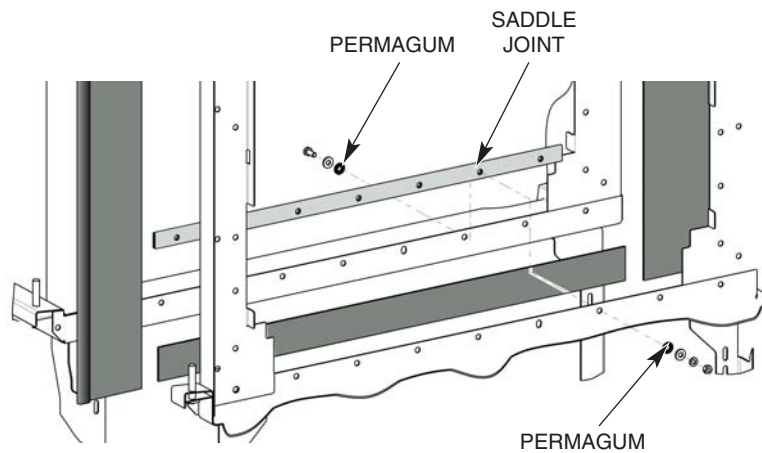

Fig. 10
4. Use Permagem on insides of washers on both sides to make an adequate seal (Fig. 10). You may have to use a C-clamp on the saddle to get the hardware started. Bolt the saddle joint to the bottom tank flanges with seven long bolts, washers, lock washers, and nuts provided.